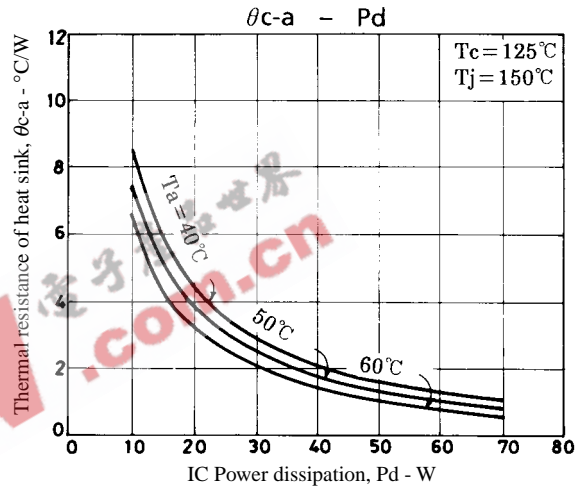

Figure 3. STK4182II θc-a - Pd
Figure 3 shows the relation between Pd and θc-a given from (1) and (3) with Ta as a parameter.
The thermal resistance of a heat sink is obtained from Figure 3.